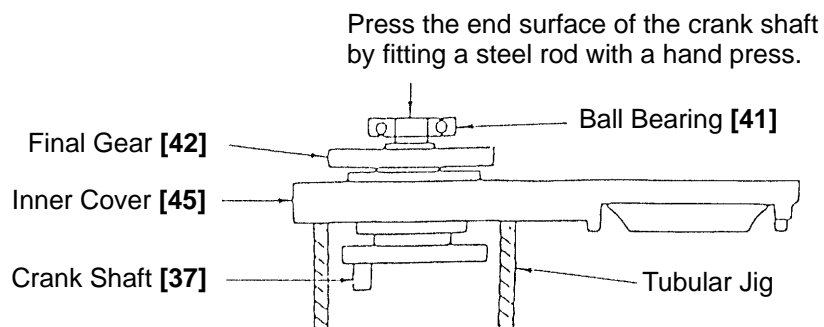

Fig. 7
First, remove the four Seal Lock Hex. Socket Hd. Bolts M5 x 16 [33] which fix the Bearing Cover [32]. Then, as illustrated in Fig. 7, support the lower surface of the Inner Cover [45] with an appropriate tubular jig, align an appropriate steel rod with the end surface of the Crank Shaft [37], and press down on the steel rod with a hand press. The Ball Bearing 6205DDCMPS2L [31], Distance Ring (B) [43], Final Gear [42], two Woodruff Keys 4 x 16 [36], and Crank Shaft [37] can then be disassembled from the Inner Cover [45].